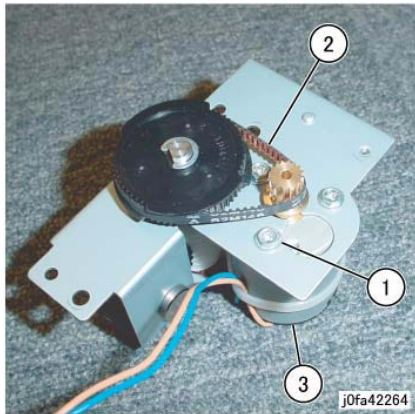

Figure 4 Removing the Stacker Motor)
9. Remove the Stacker Motor (Figure 4):